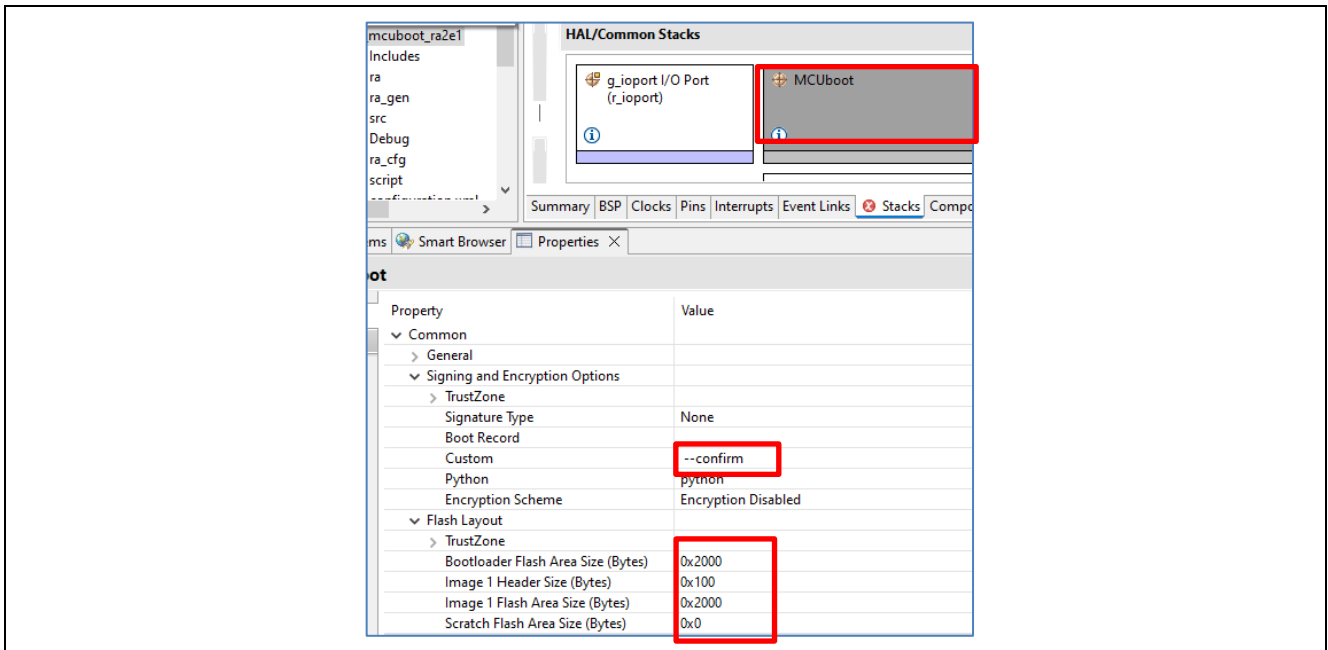

Figure 14. Update Configurations for Project ra_mcuboot_ra2e1
<code>ra_mcuboot_ra2e1</code>	Figure 14
- **NONE:** This option is selected for the bootloaders that do not support signature verification as shown in Figure 14 and Figure 16.